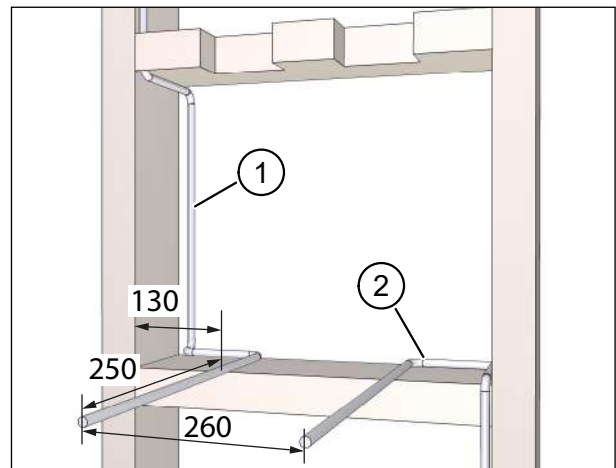

Fig. 46: Running the connecting cables, dimensions in millimetres
- ▶ Run the mains cable (item 1 in Fig. 46) and the control cable, if required (item 2 in Fig. 46). The cables should extend roughly 250 mm beyond the wall.